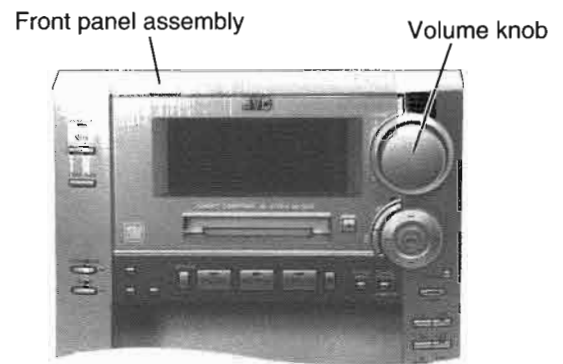

Fig.18
**■ Removing each board of the front panel assembly (See Fig.18 to 20)**